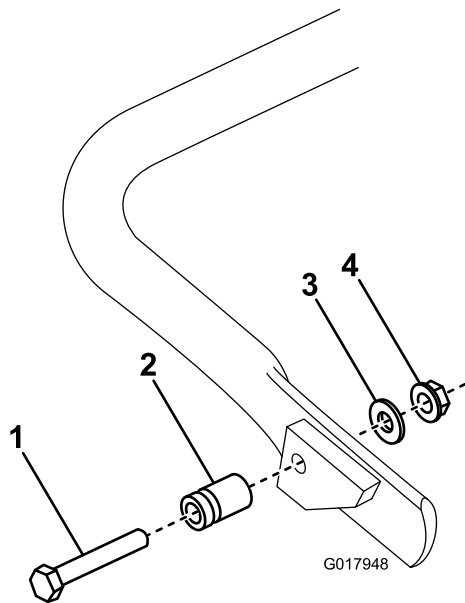

Figure 7
1. **On Model 04056 only**, connect the spring stud to the right-hand side of the kickstand (Figure 7) with the bolt, washer, and flange nut provided.